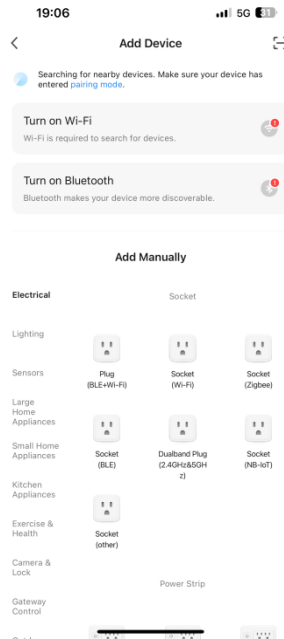

Fig.2
- 3.2. In this mode, allow the app to access Wi-Fi and Bluetooth for searching for devices. Wi-Fi devices can be found only when Wi-Fi is enabled. Nearby Bluetooth devices can be found only when Bluetooth access is allowed. (Fig.2)